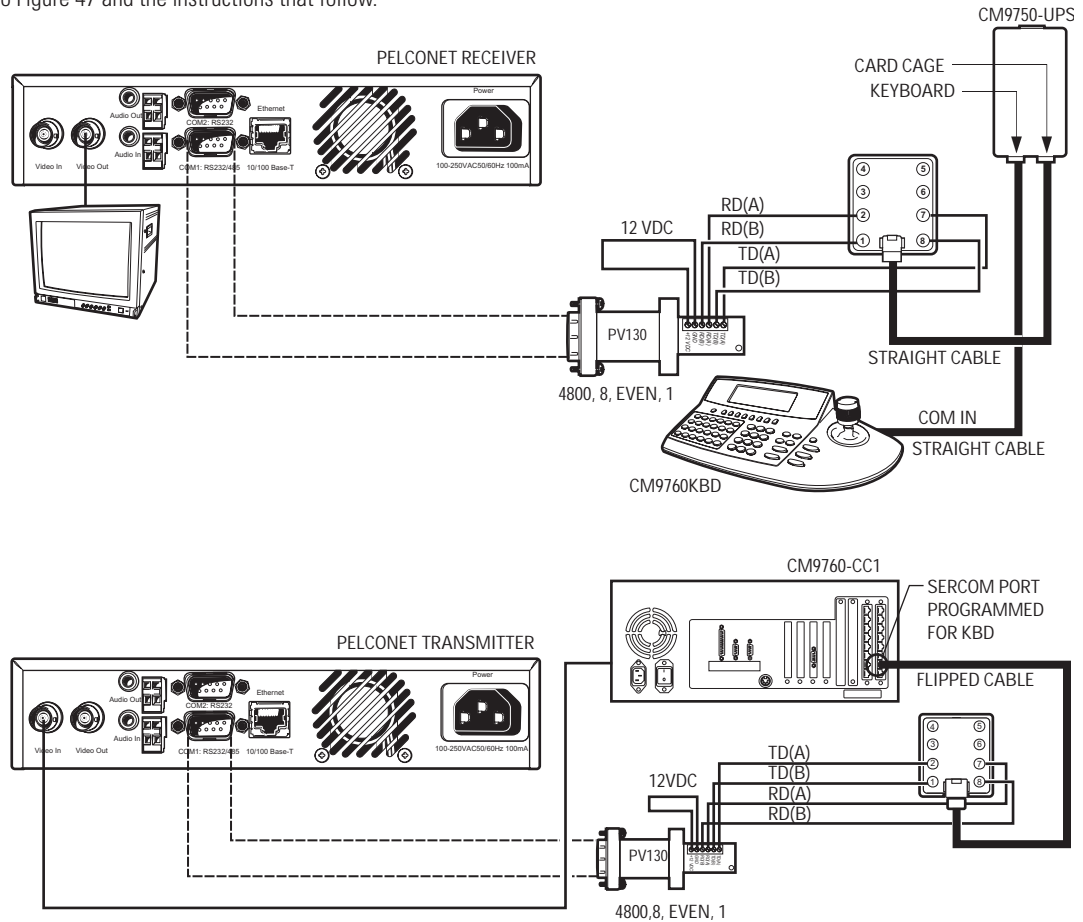

Figure 47. CM9760KBD Connected to a CM9760-CC1 Controller
Refer to Figure 47 and the instructions that follow.
3. Connect TD(A) on the converter to terminal 7 on the wall block. Connect TD(B) on the converter to terminal 8 on the wall block. Connect RD(A) on the converter to terminal 2 on the wall block. Connect RD(B) on the converter to terminal 1 on the wall block.
7. Refer to Figure 44 and Figure 47. Splice the customer-supplied DB9 cable into the CM9760-CC1 wall block. Connect TX- from the NET4001A to terminal 2 on the wall block, TX+ to terminal 1, RX- to terminal 7, and RX+ to terminal 8.